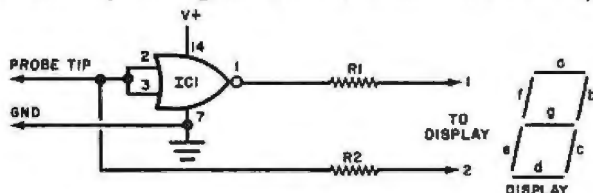

Fig. 8. Reader's logic probe circuit.
**Reader's Circuit.** Intended for checking TTL circuits, the logic test probe shown in Fig. 8 was contributed by reader David K. Merriman (Lockheed Electronics Co., Las Cruces, NM 88001). The probe will provide a visual readout of a low logic state as a "0" and of a high logic state as a "1," while identifying a pulse train as "P."